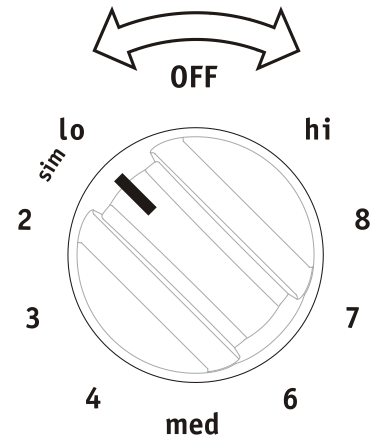

Fig. 1
2. Push in and turn the surface control knob in either direction (Fig. 1) to the desired setting (Refer to the **Suggested surface element settings table**). Start most cooking operations on a higher setting and then turn to a lower setting to finish cooking. The surface control knobs do not have to be set exactly on a particular spot. Use the graphics provided as a guide and adjust the control knob as needed (See Fig. 1). Each surface element provides a constant amount of heat at each setting.